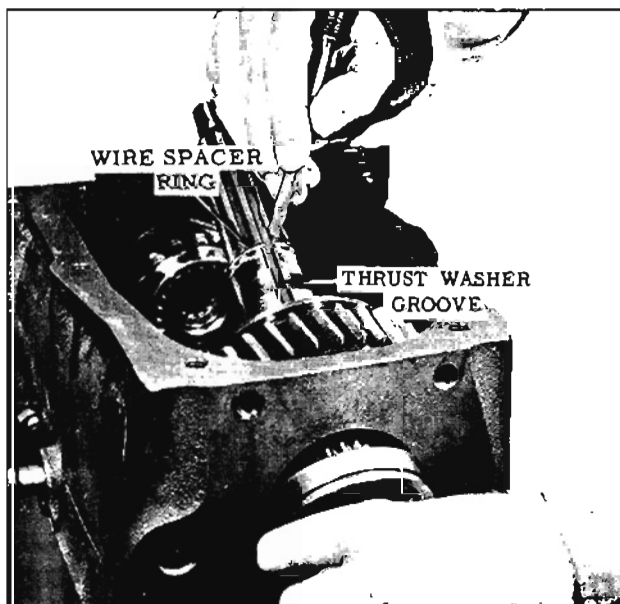

Fig. 7-31 Lining Up Wire Spacer Ring
15. Line up the small wire spacer ring in the ring groove in the main shaft with the machined thrust washer keyway groove on the second speed gear bearing surface. (Fig. 7-31)